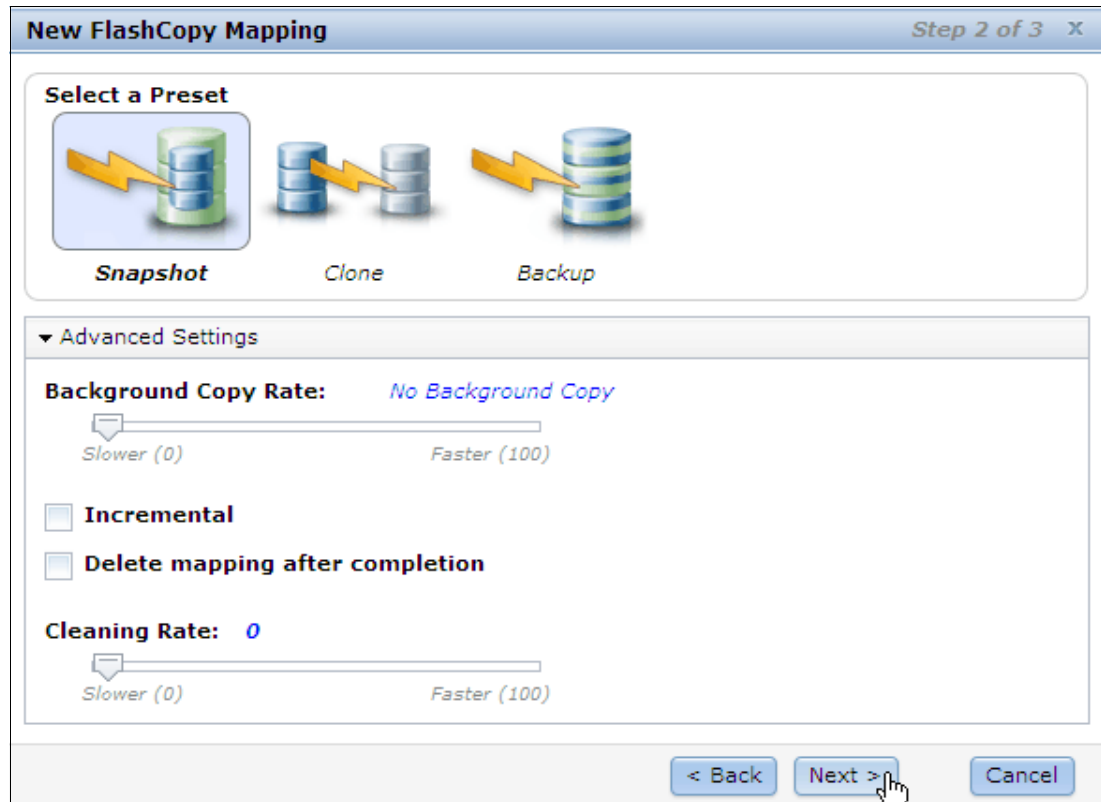

Figure 3-92 Step 2 of the new FlashCopy mapping wizard
2. Select a FlashCopy preset and modify the advance settings as required. Select **Next** to continue, as shown in Figure 3-92.